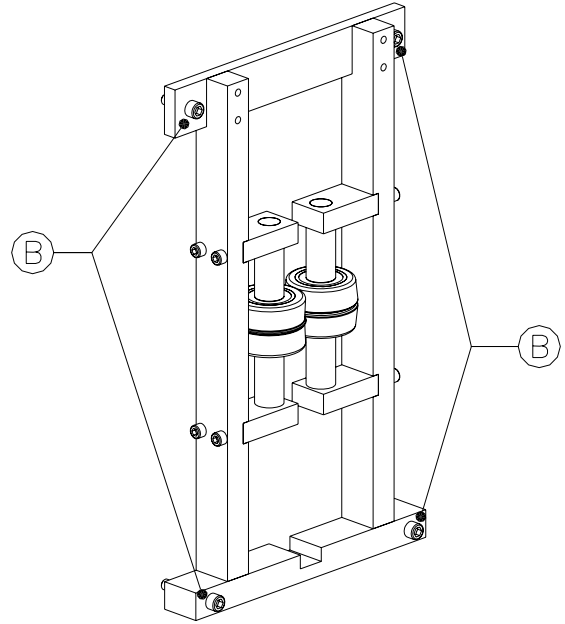

Fig. 5 Stiffening Rib Assembly
C.	Insert the stiffening rib assembly oriented as shown in Fig. 5 below (the direction of material flow should be right to left). The male die should be on the operator side and the female on the motor side, causing the rib to be indented toward the motor side of the machine.
E.	Using the bolts supplied with the Stiffening Rib Assembly (Fig. 5 Item B), bolt the Assembly in place.